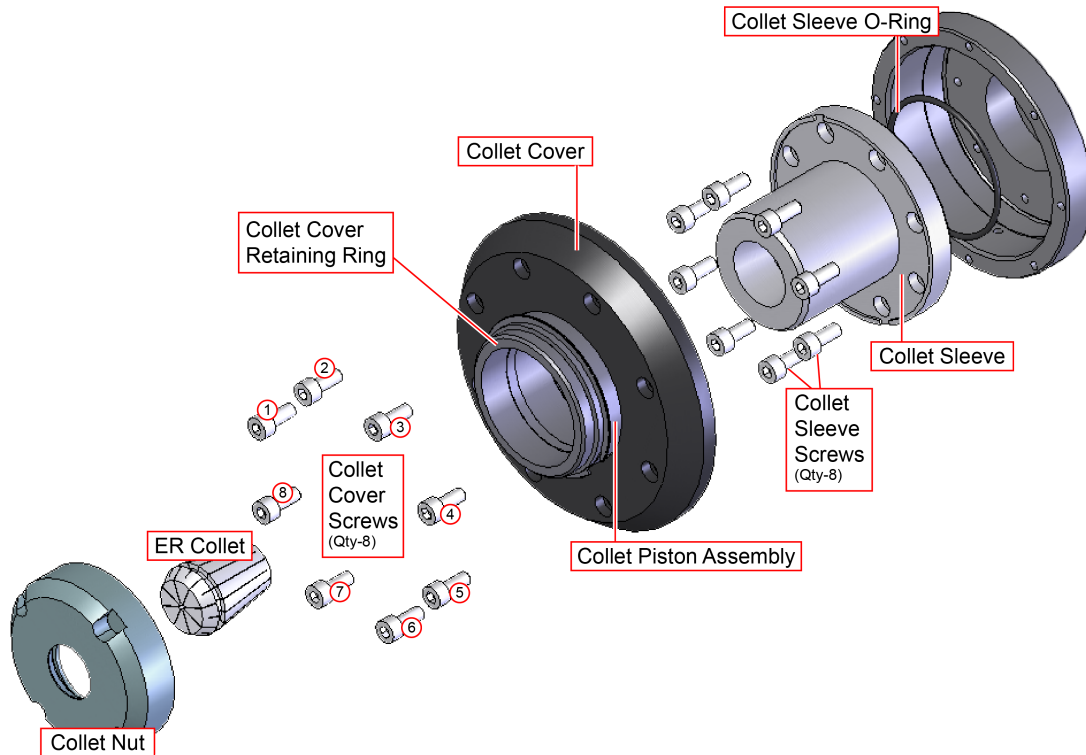

Figure 2-10: Collet Assembly Exploded View
- Step 5: Remove every other collet cover screw (see Figure 2-10). DO NOT remove all of the screws at the same time. The cap is under tension from several springs and will be damaged or cause bodily harm if not removed carefully.